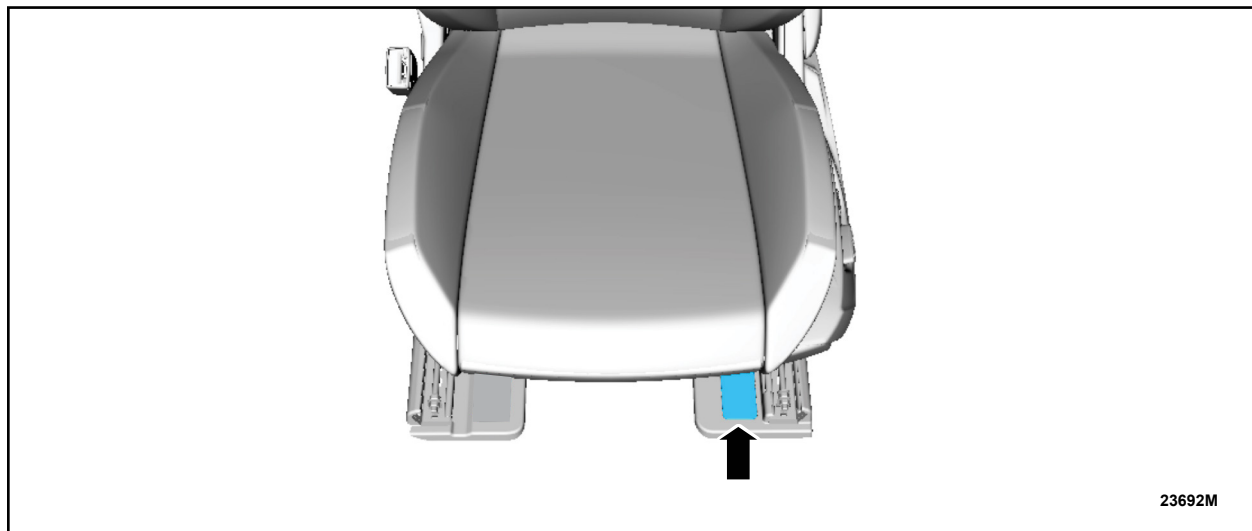

FIGURE 1
4. Remove the front seat front outboard shield bolt cap on both sides. See Figure 1.